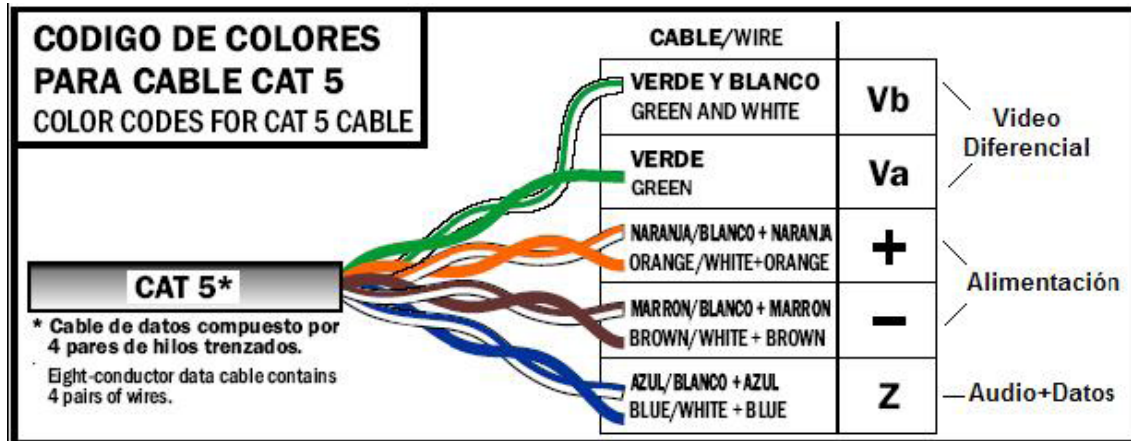

Figure 1. VISUALTECH installations using UTP CAT-5.
To complete the VISUALTECH¹ digital system, AUTA has developed a Switchboard (SB) Central Unit capable of handling calls in 5 wires video installations. Figure 1 describes, for example, the wiring assignation for VISUALTECH installations using UTP CAT-5.